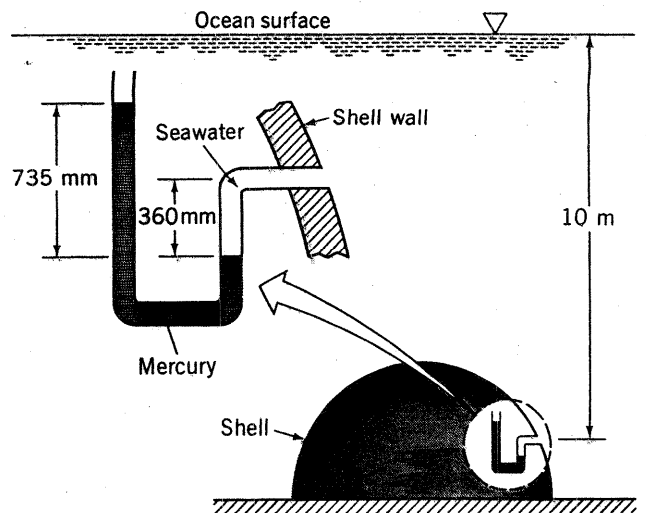

FIGURE P2.38
2.38 An air-filled, hemispherical shell is attached to the ocean floor at a depth of 10 m as shown in Fig. P2.38. A mercury barometer located inside the shell reads 765 mm Hg, and a mercury U-tube manometer designed to give the outside water pressure indicates a differential reading of 735 mm Hg as illustrated. Based on these data what is the atmospheric pressure at the ocean surface?